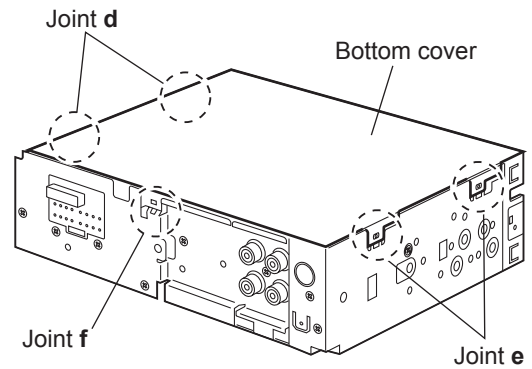

Fig.6
2.1.4 Removing the bottom cover (See Figs.6 and 7)
Do not damage the main board when releasing the joint **f** using a screwdriver. (See Figs.6 and 7)